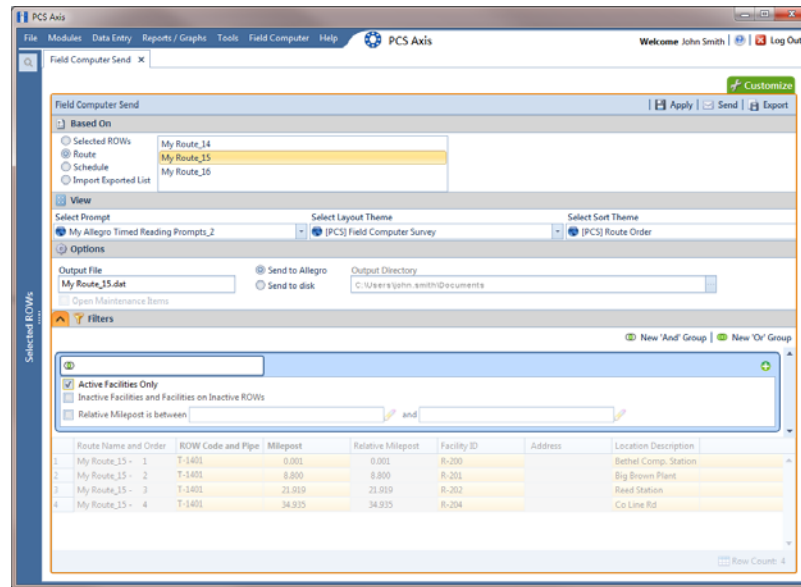

Figure 7-23. Filters
- 22 Click the  **Filters** button to open the *Filters* panel (Figure 7-23).